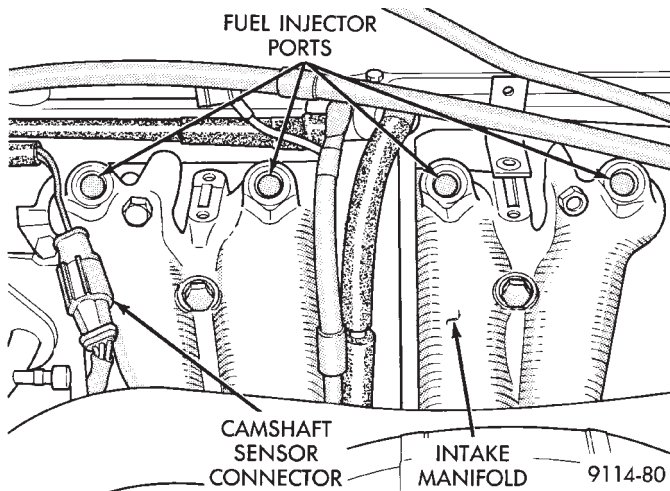

Fig. 9 Fuel Injector Ports
- (8) Cover or plug the injector ports with while servicing the injectors (Fig. 9).
- (1) Ensure the injectors are seated into the receiver cup, with the lock ring in place.
- (2) Ensure the injector wiring connectors are fully inserted into the fuel injectors.
- (3) Make sure the injector holes are clean and all plugs have been removed (Fig. 9).
- (4) Lubricate the injector O-rings with a drop of clean engine oil.